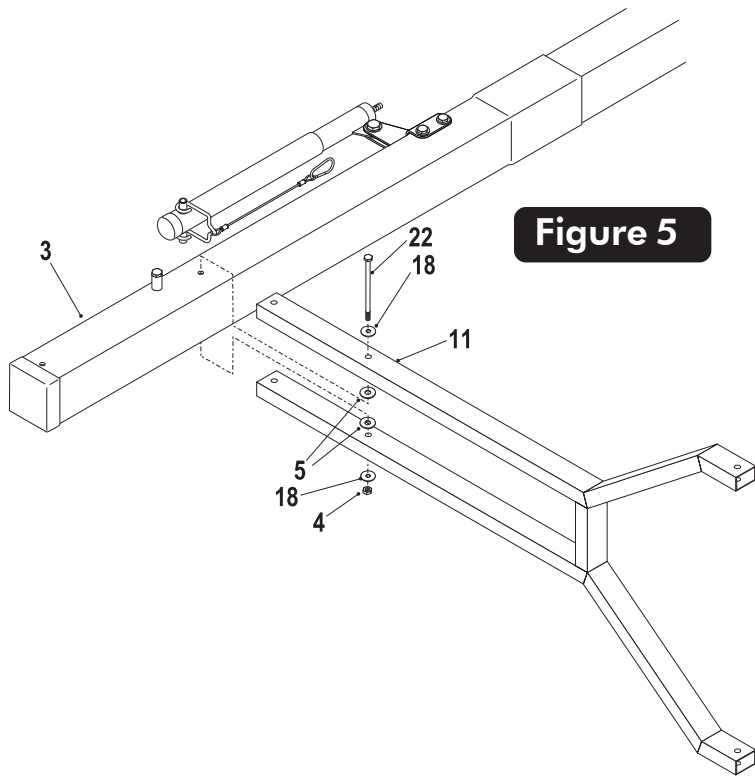

Figure 5
- Attach lower arms (#11) to Top Pole (#3), as shown in Figure 5, using a hex bolt (#22), two flatwashers (#18), two plastic washers (#5) and lock nut (#4).